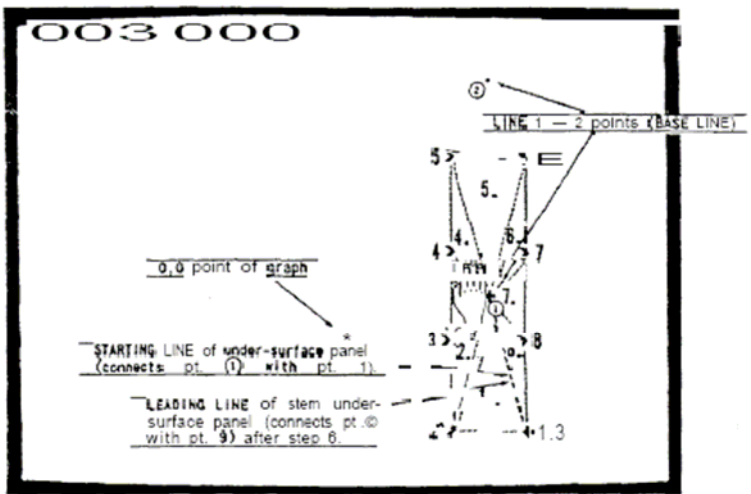
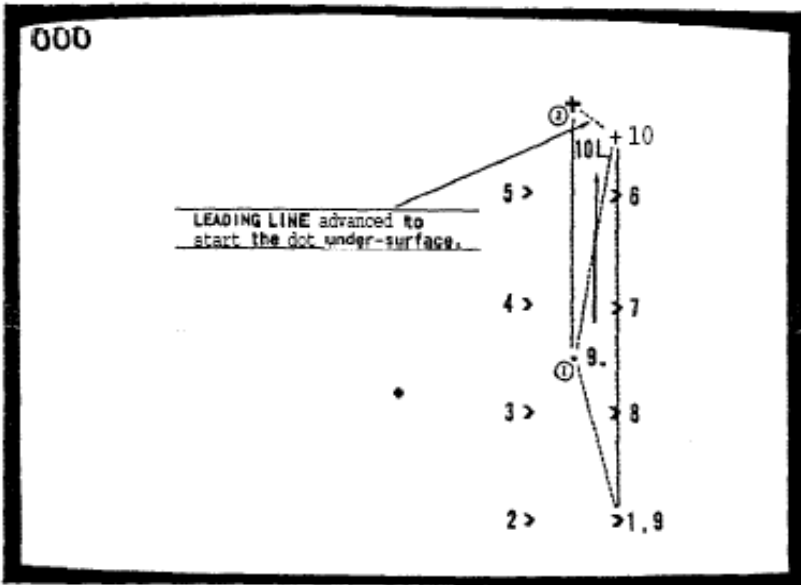

fig. 33 (HIGH LINE GRAPH)
fig 34 (HIGH LINE GRAPH)
2. Send the cursor to $X = 75, Y = -40$ (pt. 1, fig. 33). Plot a point to form a STARTING LINE by typing the "." (Plot) key.
The STARTING LINE connects LOW LINE pt. (1) with HIGH LINE pt. 1 (see "STARTING LINE of under-surface panel" caption, fig. 33).
3. Send the cursor to $X = 45, Y = -40$ and construct a triangle with the "." (Plot) key (Triangle 1. of fig. 33).
4. Use the "D" (Draw) key to form a 4-point line to $X = 45, Y = 70$ (pt. 5, fig. 33). Use the "A" (Advance/Draw) and "." (Plot) keys to construct 3 more triangles (triangles 2., 3. and 4. of fig. 33).
to construct triangles 6., 7., and 8. of fig. 33.
7. Apply the RIGHT HAND RULE to make sure the panel is visible from the underside (fig. 33).
At this point, the LEADING LINE of the panel connects LOW LINE pt. (1) with HIGH LINE pt. 9 in figs. 33 and 34. The task is to move the LEADING LINE up so that it connects LOW LINE pt. (2) with HIGH LINE pt. 10 (fig. 34) without constructing visible triangles. Once the LEADING LINE is advanced, the visible triangles of the under-surface of the dot can be constructed. The answer is to use invisible, "0"-painted JUMP TRIANGLES again.
1. Use the "X" (X OF CURSOR) key to send the cursor to location X = 75, Y = 90 (pt. 10, fig. 34 - the lower right corner of the dot).
The JUMP TRIANGLES are shown by dotted lines (fig. 34). The LEADING LINE of the panel now connects LOW LINE pt. (2) with HIGH LINE pt. 10. (See "LEADING LINE advanced to start the dot under-surface" caption, fig. 34.)
Portions of panels separated by one or more JUMP TRIANGLES are called sub panels of the 3-D PANEL. For example, the STARTING LINE of the stem sub panel in fig. 34 connects pts. (1) and 1. The LEADING LINE of the stem sub panel connects pts. (1) and 9. (Since pts. 1 and 9 overlap, the stem sub panel is a closed sub panel.) Similarly, the STARTING LINE of the dot sub panel connects pts. (2) and 10 and the LEADING LINE of the dot sub panel connects pts. (2) and 14. (Since pts. 10 and 14 overlap, the dot sub panel is also closed.) The STARTING LINE of the 3-D PANEL, however, connects pts. (1) and 1 and the LEADING LINE of the 3-D PANEL connects pts. (2) and 14. The 3-D PANEL is composed of the entire panel including the JUMP TRIANGLES.